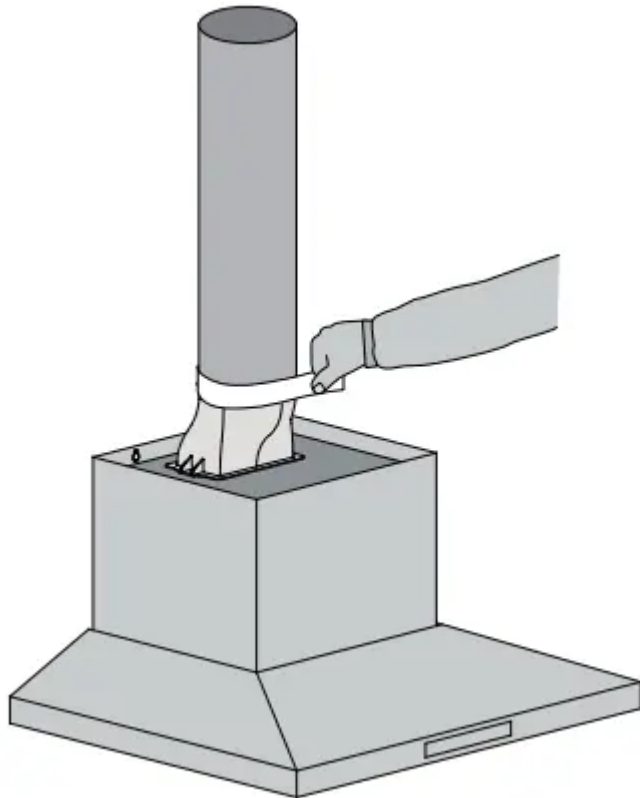

Fig. 11
**Step 6b.** Ducted mode (Fig. 11) Fit a 150mm diameter non combustible flue pipe. Continue the centre line to the ceiling. Fit flue pipe to the exhaust transition duct. Use cable ties or suitable duct tape to secure flue pipe to the transition duct.